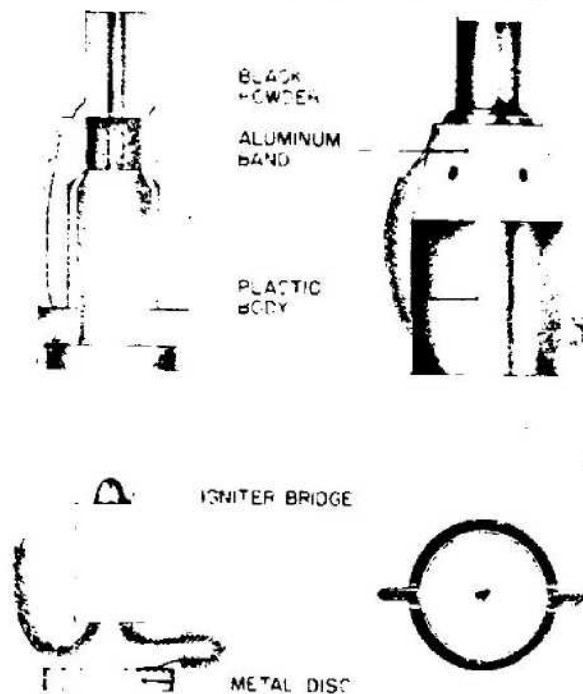

Figure 613—Electric Fuze ERZ 39
**EMPLOYMENT:** This base fuze fits into one of the venturi of the German 15-cm and 21-cm rockets. (See fig. 613.)